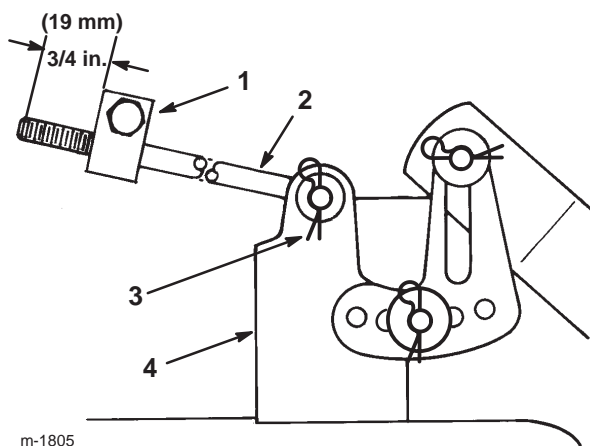

Figure 45
11. Measure the length of the rod extending out of the front of the adjusting block on the sides of the chassis (Fig. 45). If the rod length is not 3/4 in. (19 mm), remove the hairpin cotter and washer from the end of the rod (Fig. 45) and turn the rod until it extends out 3/4 in. (19 mm).